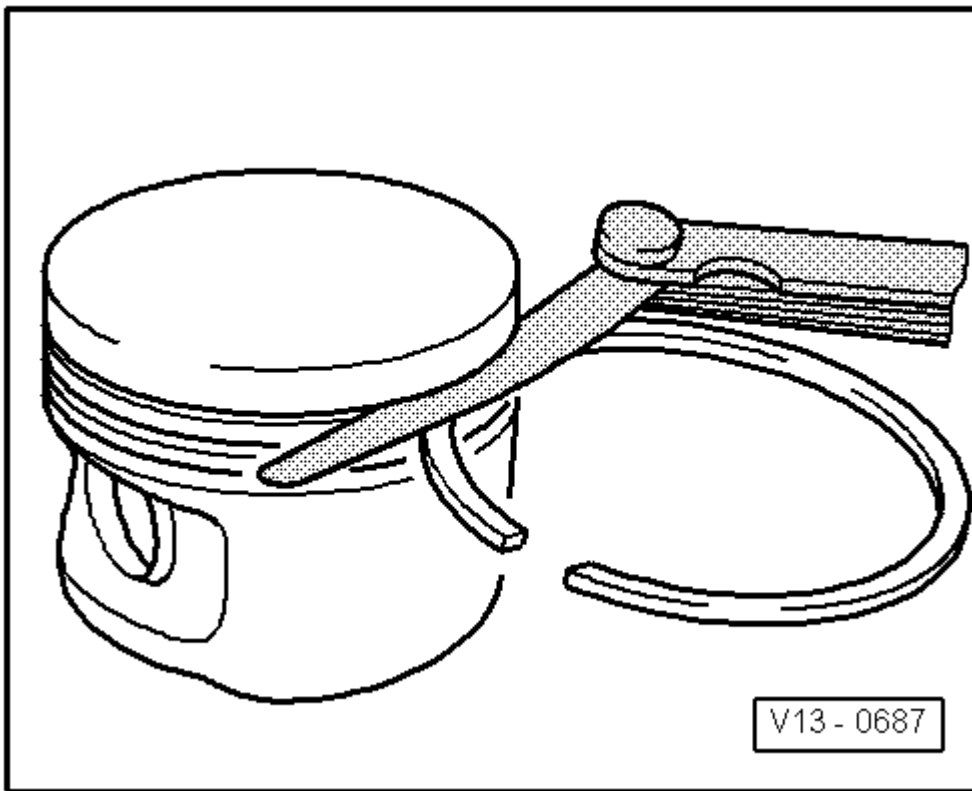

Fig. 28: Identifying Check Of Piston Ring Gap
- Piston ring groove clearance, checking. Refer to **Fig. 28**.